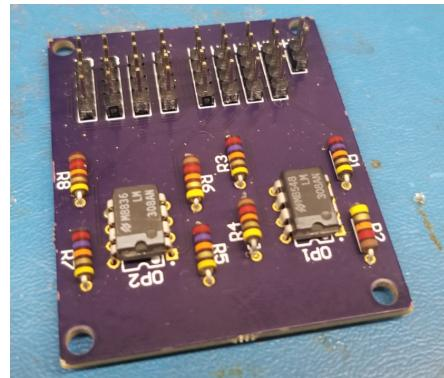

Figure 5: Voltage Divider step 1
2. Once soldered the board should look like Figure 5